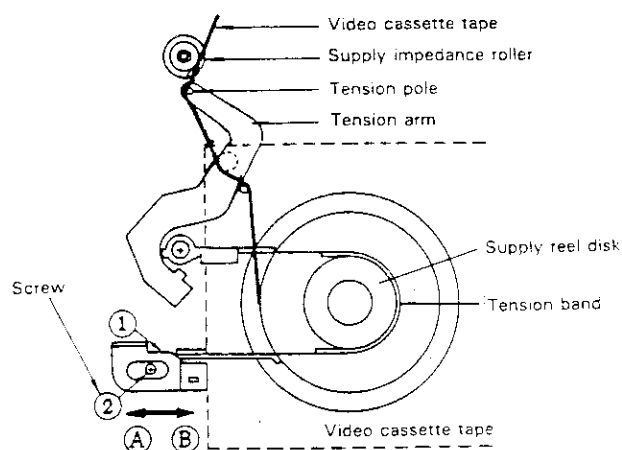

Figure 1-12.
• Position adjustment (Fig. 1-12)
1. If the tension pole is more than 1.0 mm to the right of the supply impedance roller's center, shift the tension band control bracket ① in the direction of arrow → ②, and tighten the screw ③.
2. If the tension pole is less than 0.6 mm to the right of the supply impedance roller's center, shift the tension band control bracket ① in the direction of arrow → ④, and tighten the screw ③.